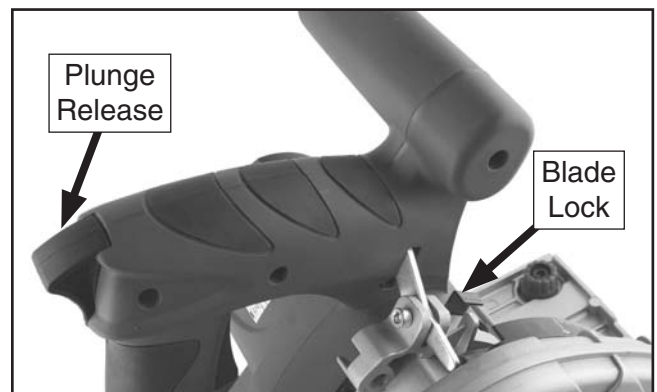

Figure 9. T10687 top view.
2. Engage the plunge release and lower the blade down far enough to expose the arbor bolt. Push the blade lock (see **Figure 9**) and rotate the arbor bolt with a 5mm hex wrench until the blade locks in place.